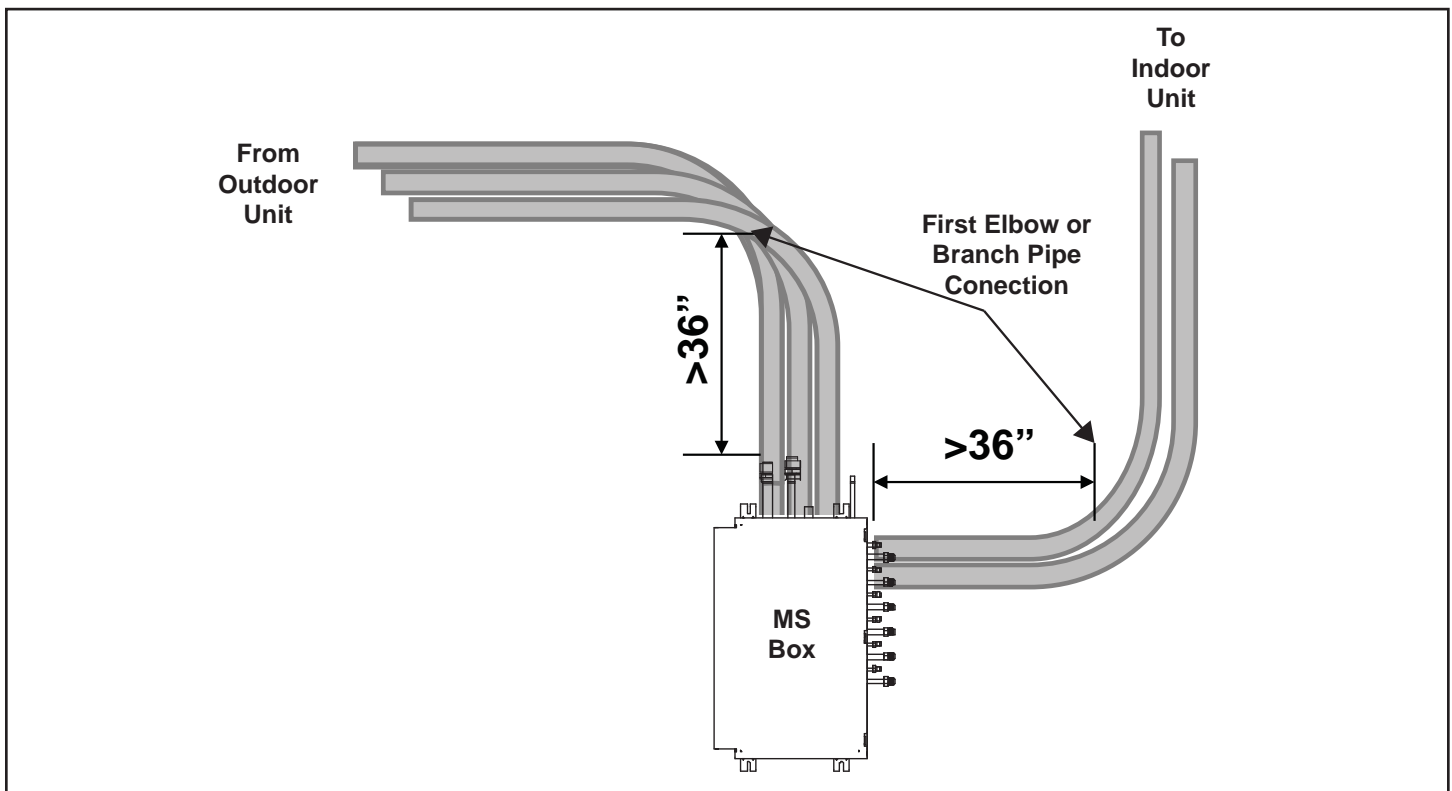

Figure 3. MS Box Piping
- Allow a minimum of 3 feet between the mode selection box and the first elbow or branch pipe in refrigerant piping. See figure 3.